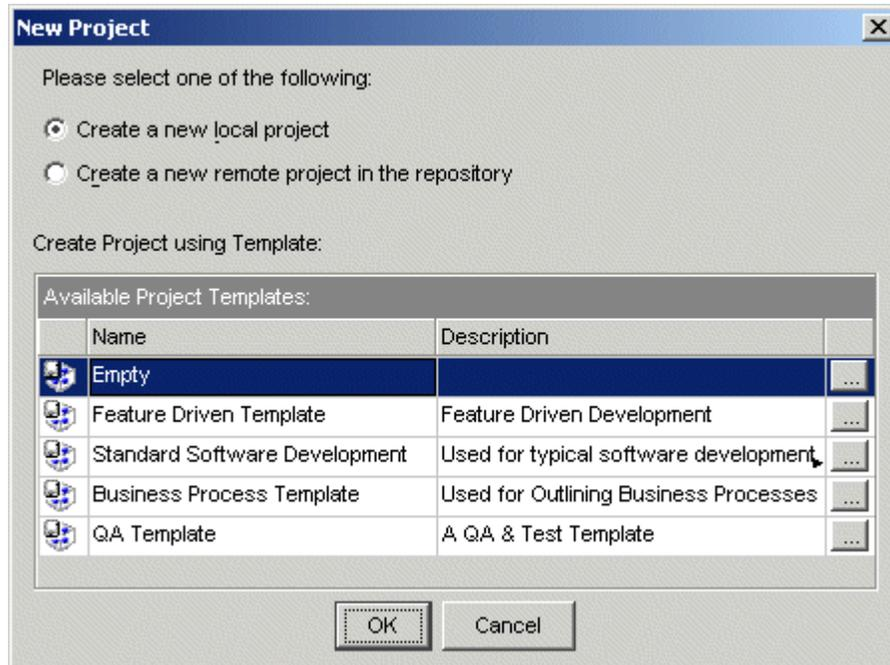

Figure 5 - Selecting a Project type and choosing a template
- Click on New Project, the screen shown in Figure 5 below will appear.